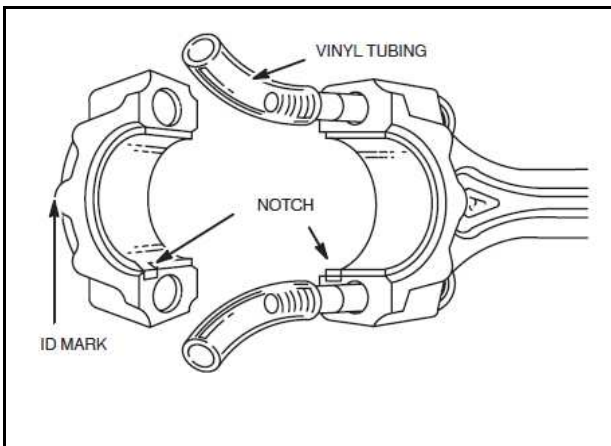

Fig. 5 - Installing Connecting Rod Bearings
1. Install connecting rod bearings, Fig. 5. Be sure tang on bearing is seated in notch in connecting rod and cap.